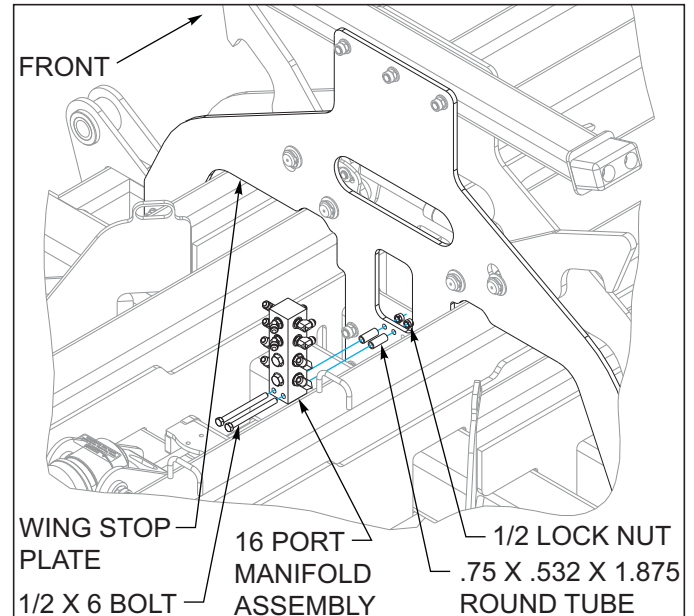

Figure 3-17: 16 Port Manifold Installation Middle
2. Models 2411AFG-07-09 install the 16 port manifold to the rear side of the wing stop plate on the center frame using 1/2 x 6 bolts, .75 x .532 x 1.875 round tube and 1/2 lock nuts See Figures 3-17.T